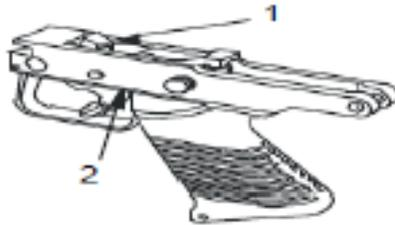

Figure 24. Sear Spring and Tripping Lever Mechanism.
5. If trigger is hard to pull, check for improperly installed sear spring (Fig 24, Item 2), or worn out tripping lever mechanism (Figure 24, Item 1). If sear spring (Figure 24, Item 2) is improperly installed (leg between trigger and trigger pin) or the tripping lever mechanism (Figure 24, Item 1) is suspected of being worn out, replace as needed (WP 0020) .